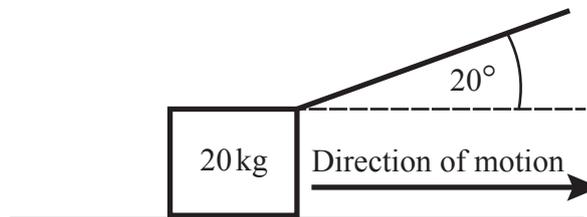

Fig. 1
- 1 A small box of mass 20 kg is being pulled along a rough horizontal surface by a rope inclined at an angle of 20° above the horizontal, as shown in Fig. 1. The tension in the rope is 150 N. The magnitude of the frictional force between the box and the surface is 30 N. The box is also subjected to a resistive force of 40 N opposing its motion.